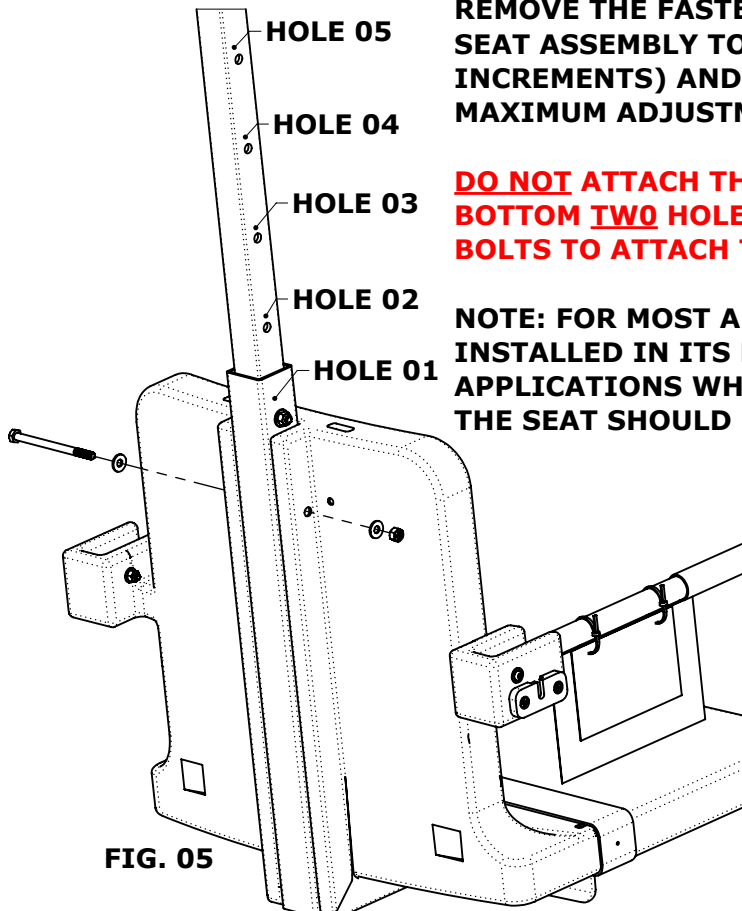

FIG. 05
**5** THE SEAT ASSEMBLY WILL ARRIVE ATTACHED TO THE SEAT POLE ADJUSTED TO ITS HIGHEST POSITION (HOLE 05). TO ADJUST THE SEAT ASSEMBLY TO A LOWER POSITION REMOVE THE FASTENERS SHOWN IN FIG. 05. SLIDE THE SEAT ASSEMBLY TO ITS DESIRED POSITION (4" INCREMENTS) AND REINSTALL THE FASTENERS. THE MAXIMUM ADJUSTMENT IS 16"
**DO NOT ATTACH THE SEAT ASSEMBLY ANY LOWER THAN THE BOTTOM TWO HOLES-ALWAYS USE THE TWO (2) SUPPLIED BOLTS TO ATTACH THE SEAT ASSEMBLY TO THE SEAT POLE!**